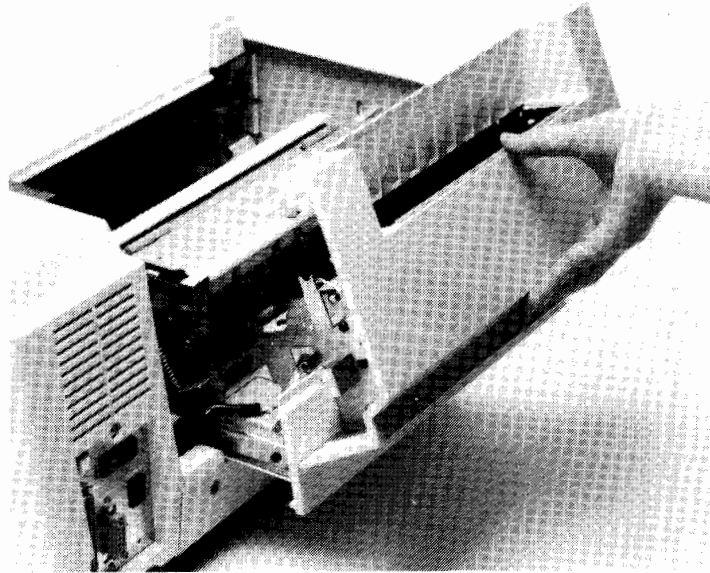

Figure 5-3. Opening Paper Exit Cover
- b. Open the paper exit cover (figure 5-3).